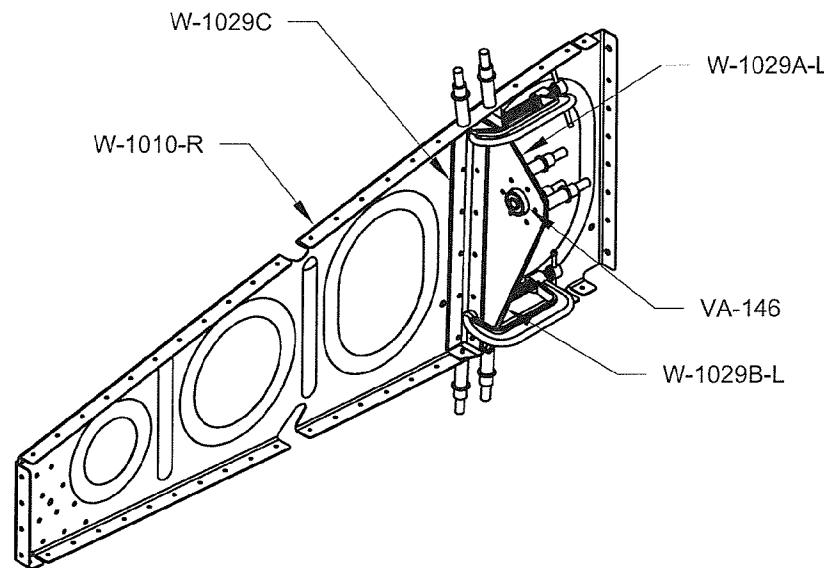

FIGURE 5: MATCH-DRILLING W-1029C ANGLE
Step 6: Cleco the VA-146 Flange Bearing in-between the W-1029A-L and W-1029B-L Torque Tube Support Brackets. Cleco the assembly to the upper and lower flanges of the W-1010-R Inboard Wing Rib as shown in Figure 5. (The support brackets cleco into the forth and fifth holes back from the front of the main flange not counting the tab.) Clamp the W-1029C Angle flush against the aft face of the W-1029B-L Torque Tube Support Bracket and the inboard face of the inboard wing rib.